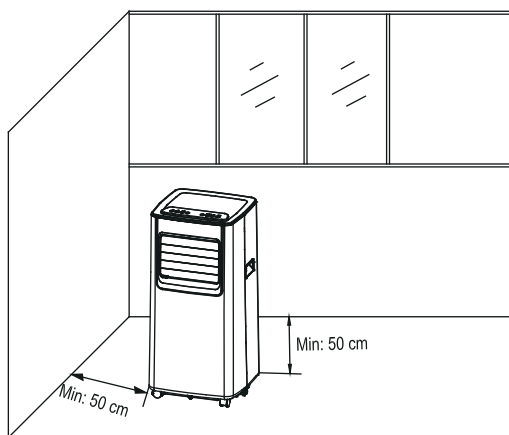

Figure4
- 1) Move the machine with installed heat pipe and fittings before the window, and the distance between the body and walls or other objects shall be least 50 cm (as shown in Fig.4).